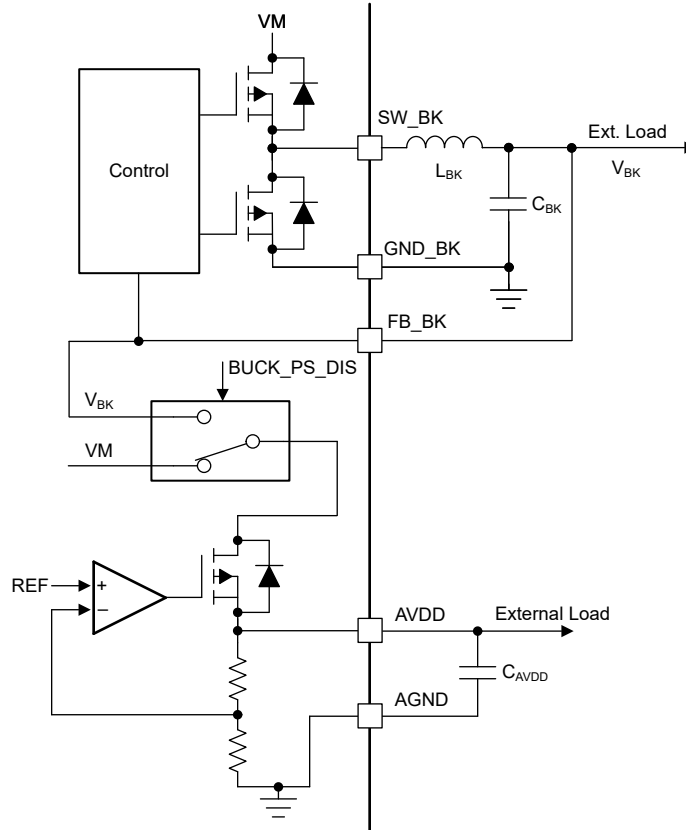

Figure 8-12. AVDD Power Sequencing on mixed mode Buck Regulator
The AVDD LDO has an option of using the power supply from mixed mode buck regulator to reduce power dissipation internally. The power sequencing mode allows on-the-fly changeover of LDO power supply from DC mains (VM) to buck output (VBK) as shown in Figure 8-12. This sequencing can be configured through the BUCK\_PS\_DIS bit. Power sequencing is supported only when buck output voltage is set to 5.0 V or 5.7 V.